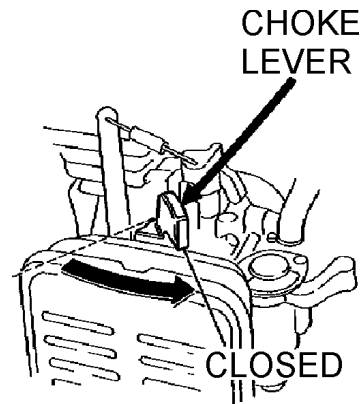

Figure 23. Engine Choke Lever (Closed)
4. Place the ***choke lever*** (Figure 23) in the "**CLOSED**" position if starting a ***warm engine*** or the ***temperature is warm***.
7. If the engine has started, slowly return the choke lever (Figure 23) to the **CLOSED** position. If the engine has not started repeat steps 1 through 6.